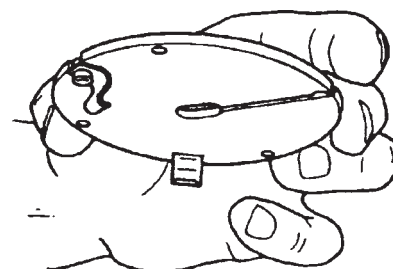

Figure A-33
1. The table insert (95) has two clips on its underside, as shown in Fig. A-33. Put the blade into the insert's slot so the solid part of the insert is on the blade's tooth side.